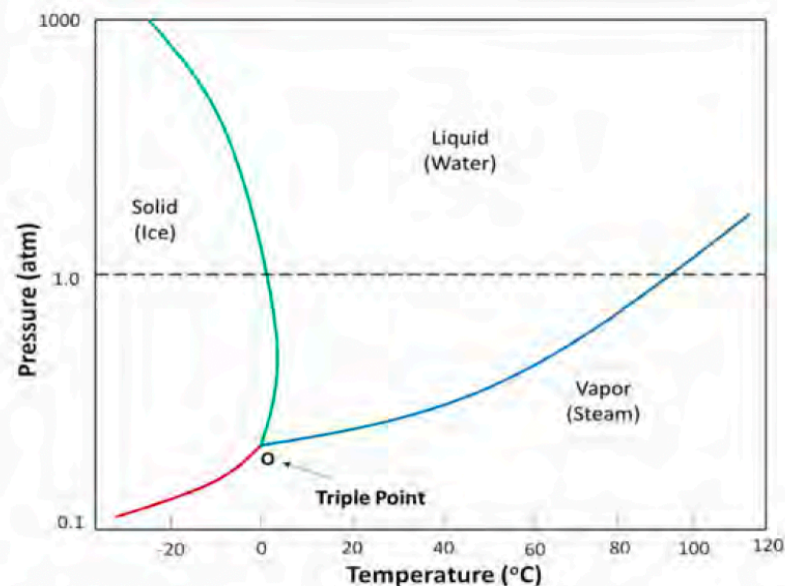

Fig 2.3: Pressure-temperature diagram of H₂O.
- **DIAGRAM REFERENCE:** FIG. 2.3 - PRESSURE-TEMPERATURE DIAGRAM FOR H₂O.